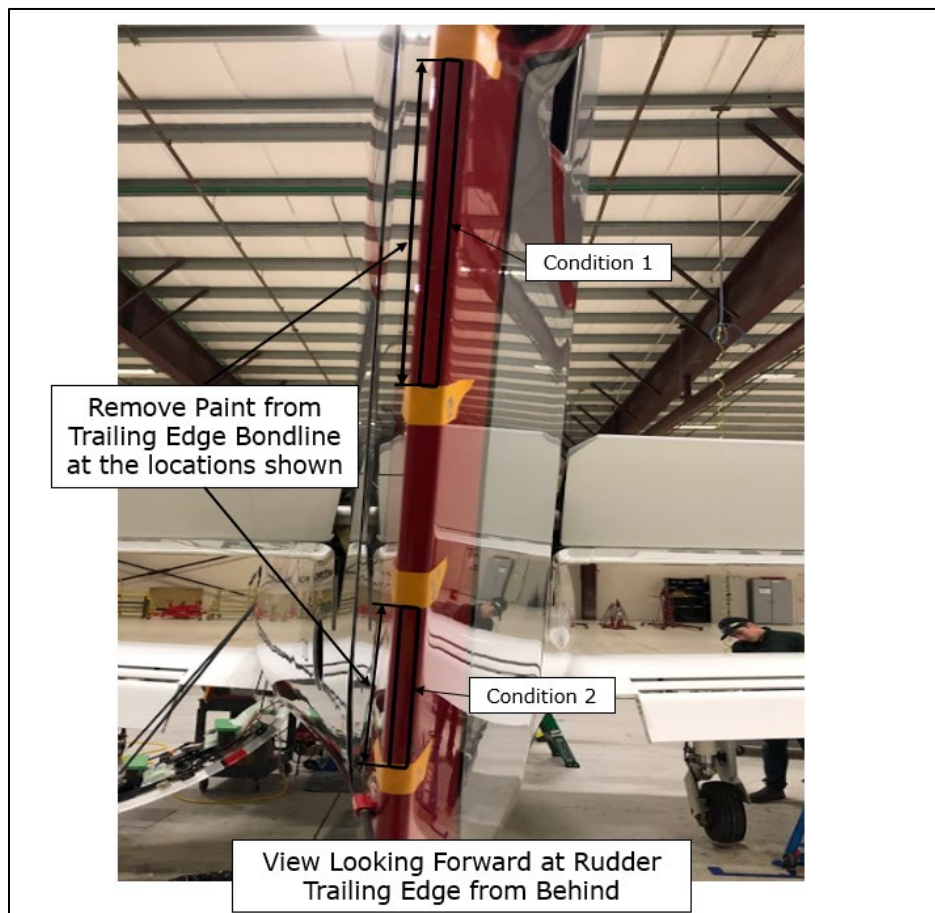

Figure 2: Paint Removal Region
5. Remove the paint from the indicated area at the rudder trailing edge for both conditions 1 and 2. See Figure 2 for paint removal region.